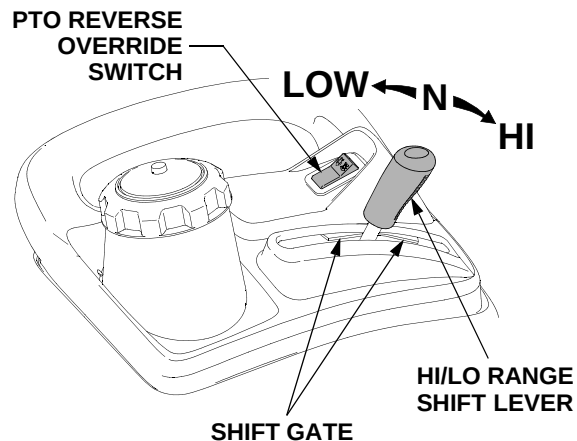

Figure 15
**Hi range** — Shift the lever fully forward in slot. See Figure 15.
The PTO reverse override switch, located on the *left* fender, allows the PTO to operate while the tractor is traveling in the reverse direction. Refer to Figure 15.